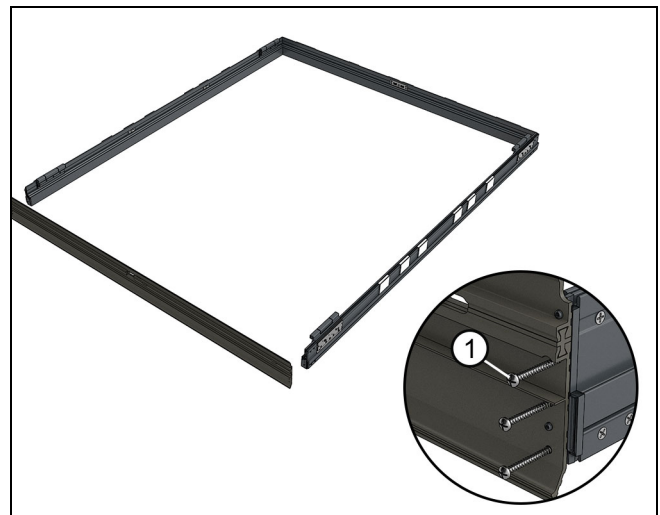

Figure 17
6. **Saddle Sills:** Attach the saddle sill to the jambs with three #8 x 1 3/4" pan head screws per corner. See Figure 17.